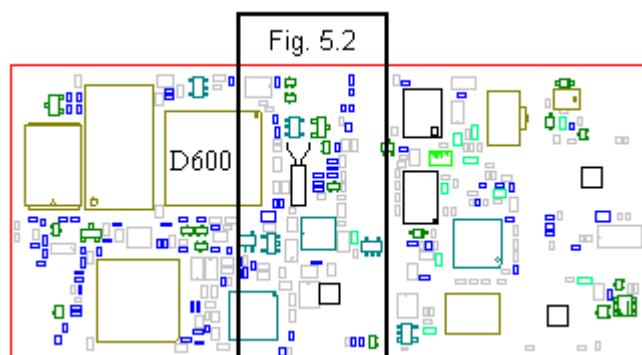
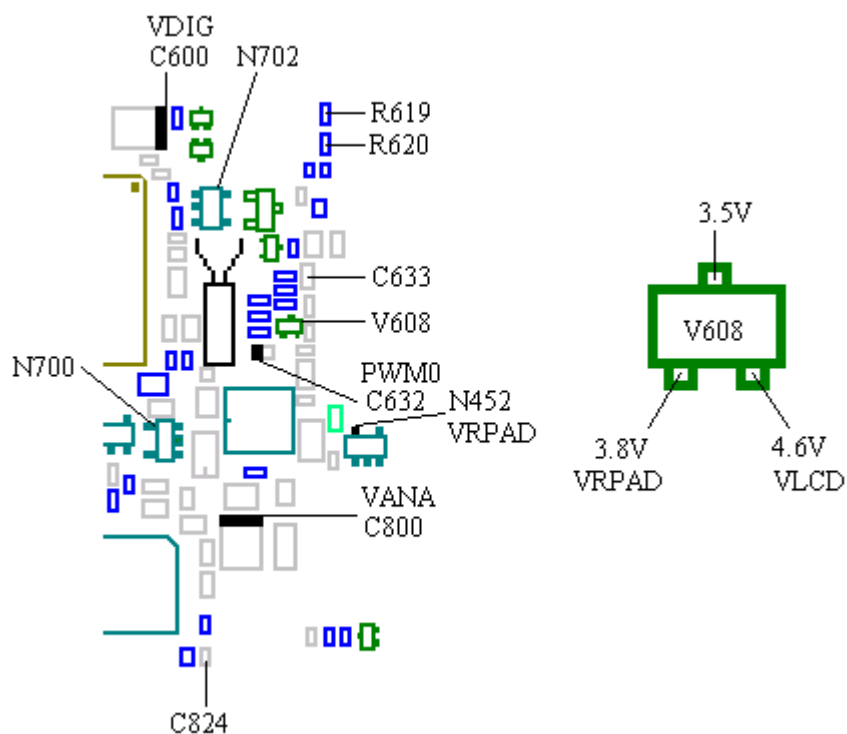

Fig. 5.1
Fig. 5.2
The component side of the circuit board is shown in fig. 5.1.
Measure the voltages at the V608 diode (class A). Compare the results to the values at fig. 5.2.
- If any of the voltages differ from the ones in fig. 5.2, measure the resistances of C633 (class A, >100 kohms, fig. 5.2) and C824 (class A, >25 kohms, fig. 5.2).
* If the soldering is correct, replace C632 (class A, fig. 5.2) and measure the voltages again.
- If there isn't, check the resistances from H622 pad 6 to V608 (the VLCD marked pin in fig. 5.2, ~0 ohms) and from pad 5 of H622 to ground (~0 ohms).
- If the I²C-DATA or the I²C-CLOCK voltage is missing, check the VDIG voltage at C600 (~3.2V, fig. 5.2)
- * If the VDIG voltage is correct, measure the resistances of R619 (~2.2 kohms, fig. 5.2), R620 (~2.2 kohms, fig. 5.2), R615 (~10 kohms, fig. 5.5) and R616 (~10 kohms, fig. 5.5, all of class A). Check the solderings of D600 pins 3 and 4 (fig. 5.1).
Check the VDIG and VANA voltages (~3.2V, fig. 5.2).